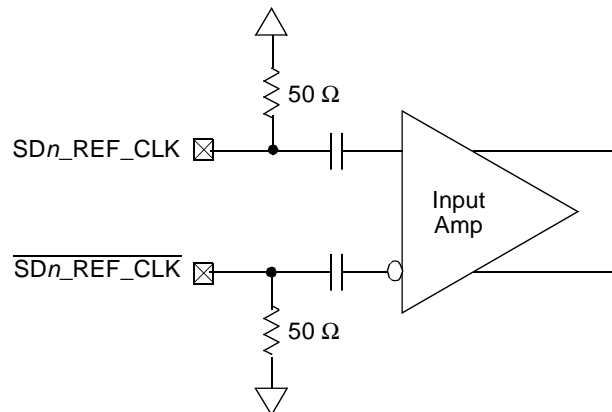

Figure 52. Receiver of SerDes Reference Clocks
Figure 52 shows a receiver reference diagram of the SerDes reference clocks.
- The $\overline{SDn_REF_CLK}$ and SDn_REF_CLK are internally AC-coupled differential inputs as shown in Figure 52. Each differential clock input ($\overline{SDn_REF_CLK}$ or SDn_REF_CLK) has a 50 Ω termination to SGND_SRDS_n (xcovvss) followed by on-chip AC-coupling.